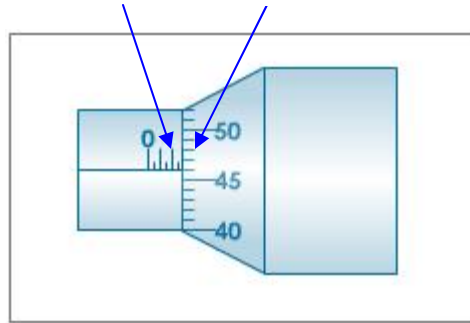

Fig. 3 Linear and circular scales of screw gauge
- As an example, to determine the diameter of a wire, the wire is to be placed between the anvil and spindle end, and the thimble is rotated till the wire is firmly held between the anvil and the spindle. The ratchet is provided to avoid excessive pressure on the wire. It prevents the spindle from further movement. The diameter of the wire could be determined from the reading as shown in Figure 3.
= 2.5 mm + (46\*0.01) = 2.96 mm (for Figure 3)